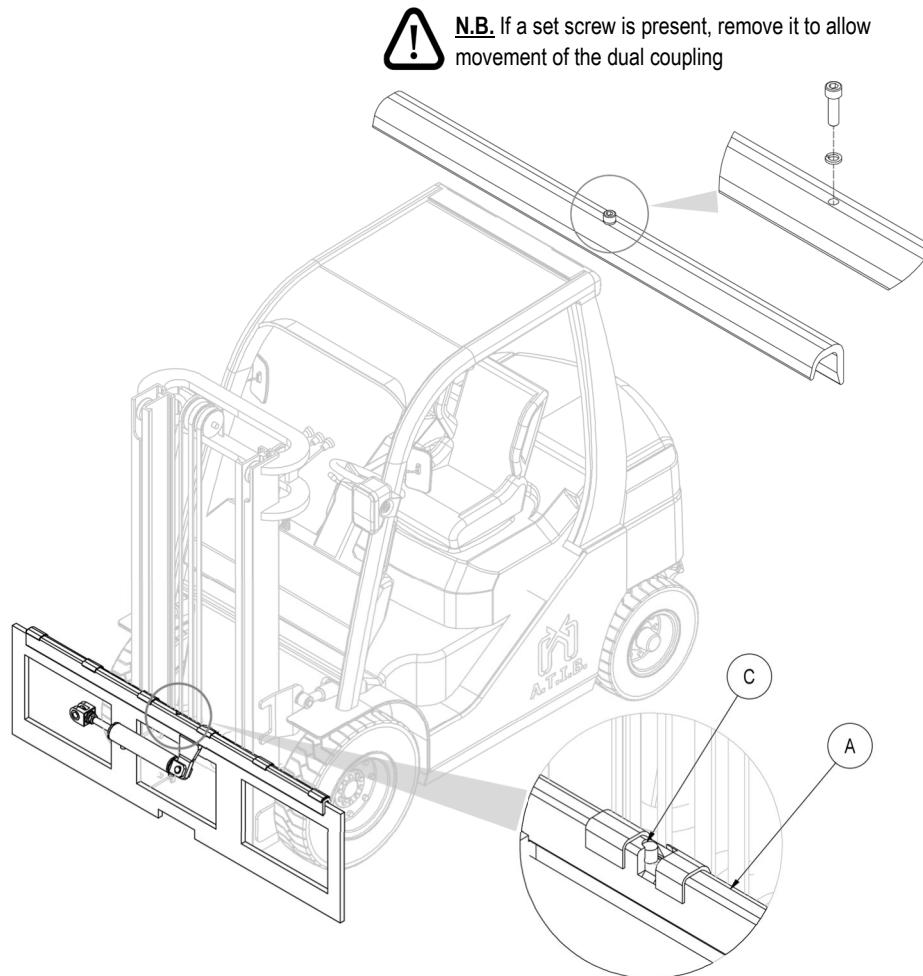

Figure 3
5. Obtain the dual coupling **A** (with its sliding bushes and sideshift cylinder), and position it on the upper profile of the fork carriage, taking care to fit the centring pin **C** into its central notch (see *Figure 3*).